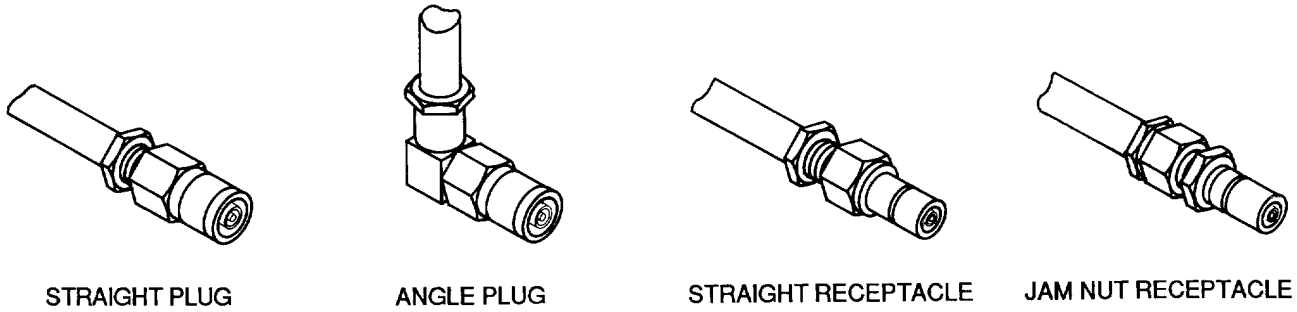

Figure 19. Typical SMB Series Connectors
52. **Series SMB Connectors.** These connectors are subminiature, snap on coupling connectors approximately the same size as SMA series. These connectors operate to 10,000 MHz (Figure 19).